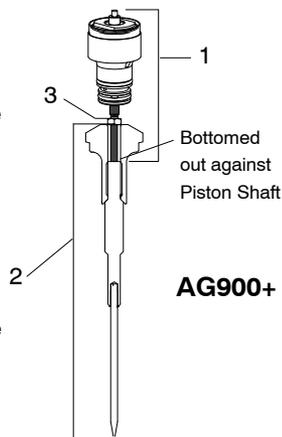

Figure 21: Piston/Cartridge Assembly and Needle Assembly
- AG900+ Module:** See Figure 21. Install the new needle assembly onto the piston/cartridge assembly. Turn until the needle bottoms out against the end of the piston shaft. Tighten jam nut.